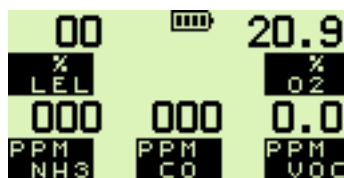

Fig. 2.12 Normal Operating Display
- 1) Start from the normal operating display shown in Fig. 2.12. Press the green (RH) button once to switch the instrument screen light on.